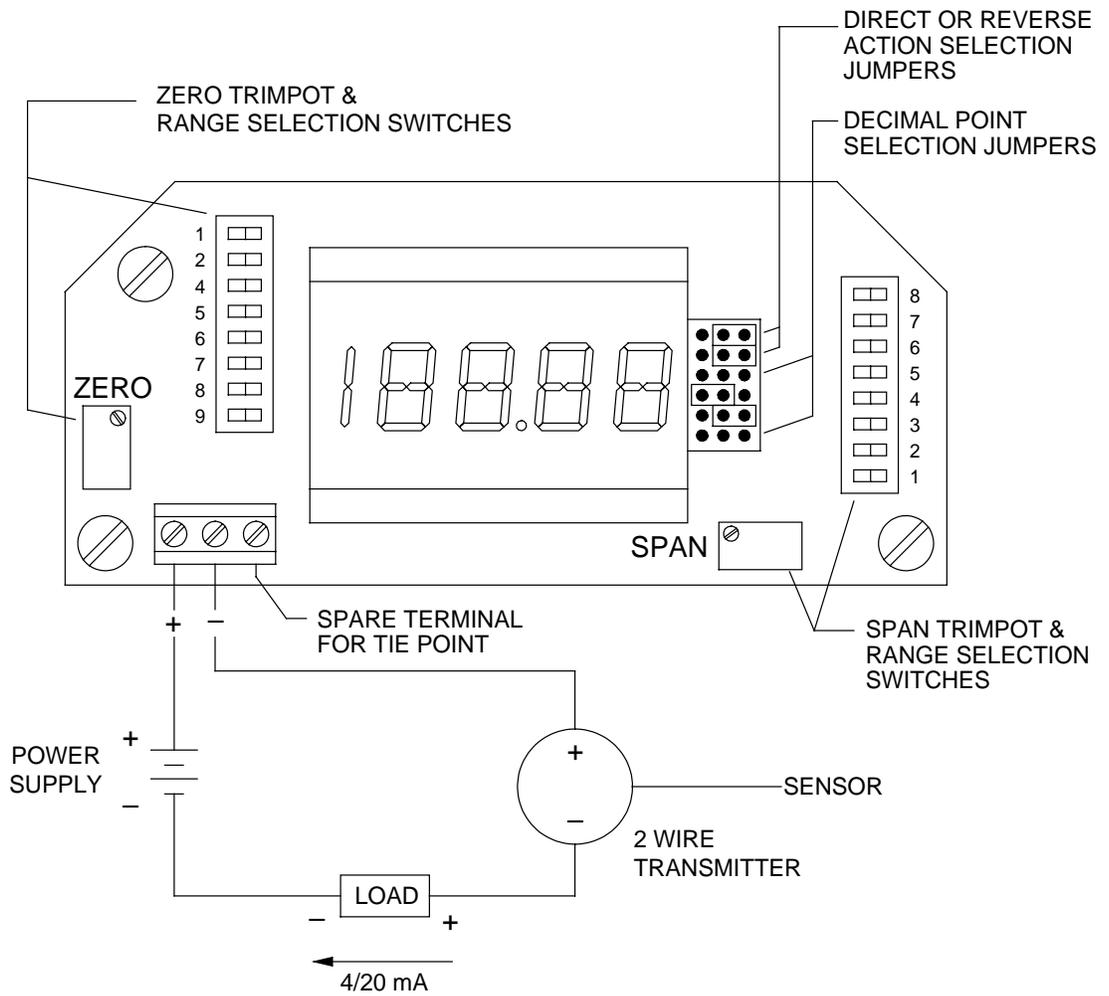

FIG. 2 TYPICAL FIELD WIRING CONNECTIONS AND LOCATION OF CALIBRATION SWITCHES AND POTS
To calibrate the 18-LPI-4, remove the front cover and label to expose the calibrating switches and the span and zero pots. Connect a current source to the input terminals (fig. 2) and proceed to calibrate the indicator as follows.
- 2) Set span switches for required span range (Figs. 2 & 4).
- 3) Set zero switches for required zero offset. (Figs. 2 & 4)
EXAMPLE: Select DP 1 position by using decimal point selection jumpers. (Figs. 2 & 5)
EXAMPLE: Select direct action by using action selection jumpers. (Figs. 2 & 5)